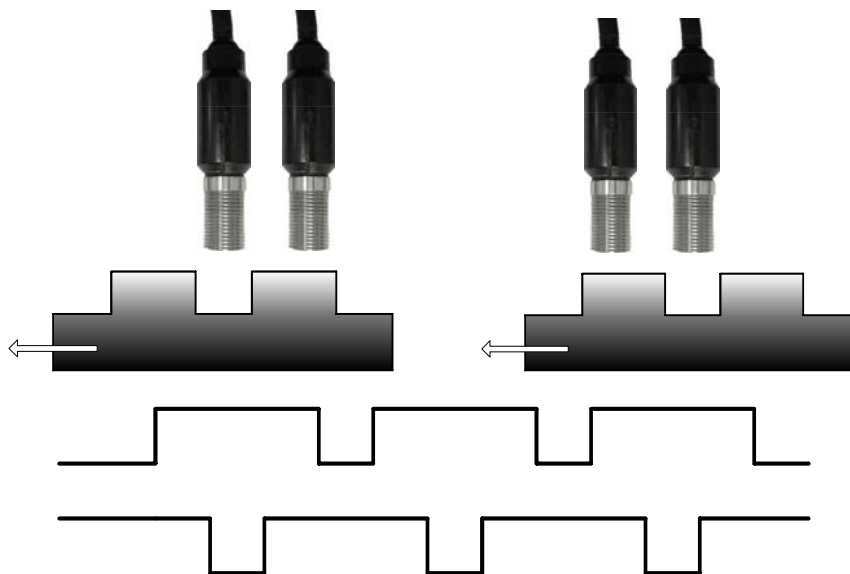

Figure 5
**Configuration With Interleaved Proximity (Figure 5)**